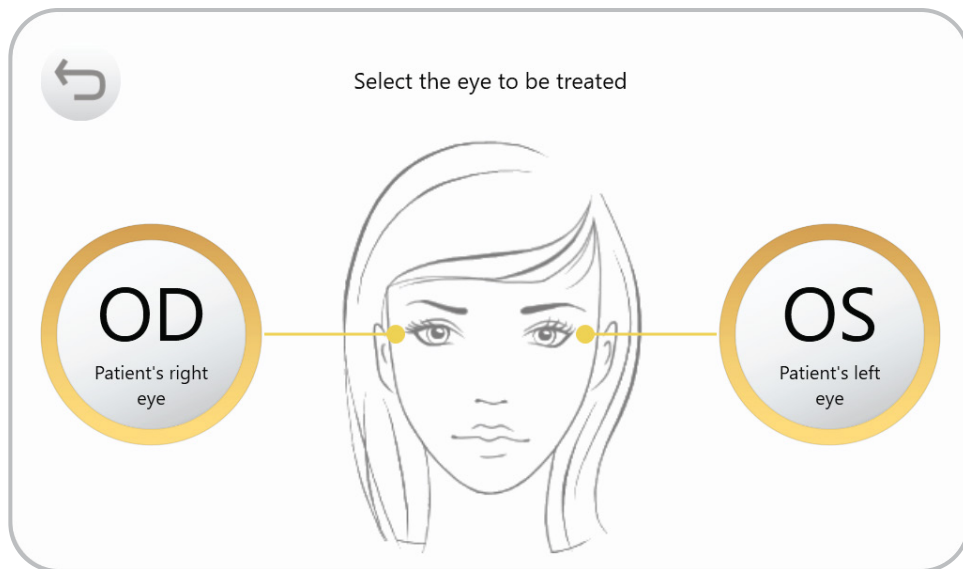

FIGURE 8
If one eye was selected for treatment, select on the touchscreen which eye is the one to be treated (Figure 8). If both eyes were selected for treatment, this screen is not presented to the operator. The right (OD) eye will always be treated first, followed by the left (OS).